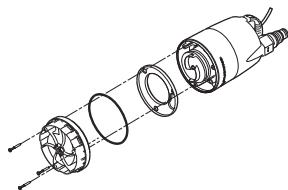

Fig. 10 Removal of pump housing
3. Remove the pump housing, see fig. 10.